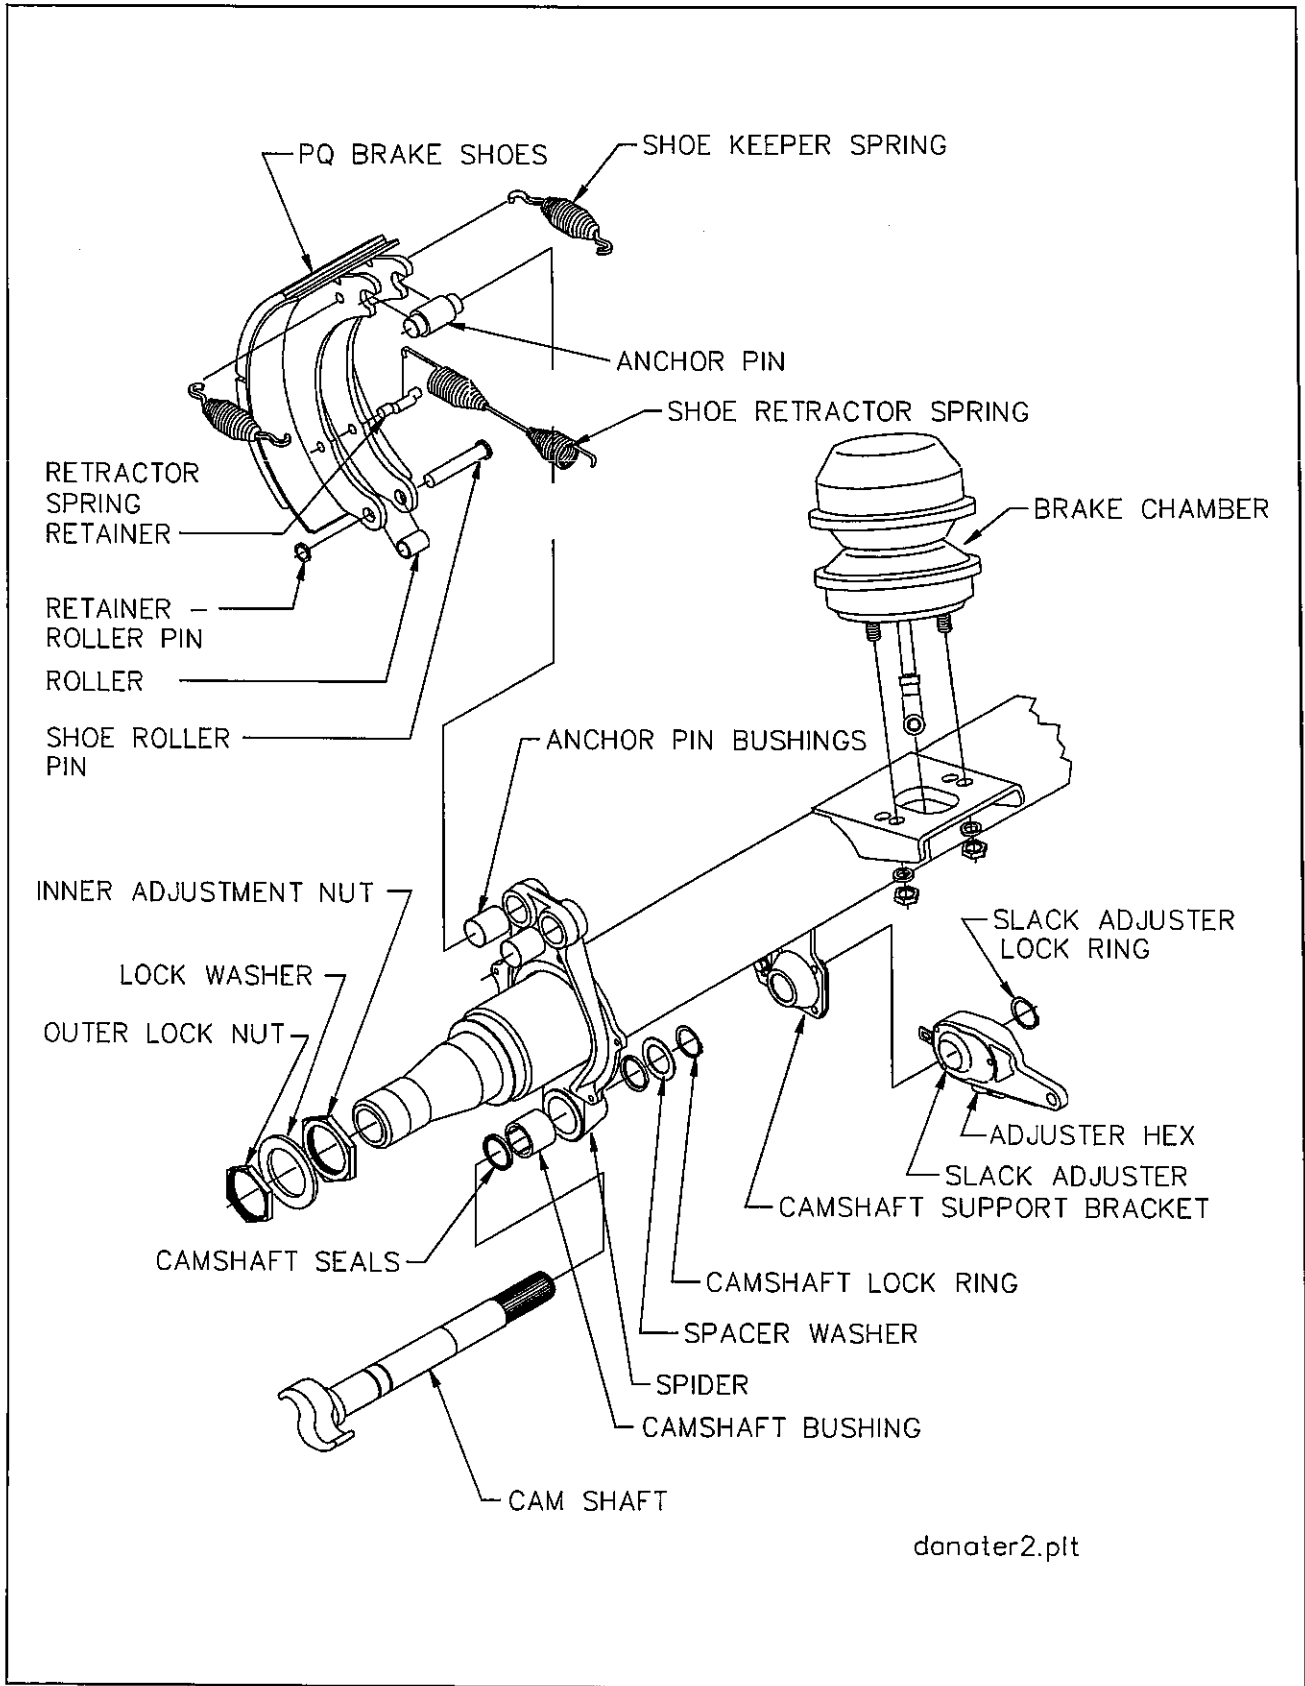

Figure 4-10 Axle and Brake Assembly
Check for faulty units. Check the condensation holes on the underside of the brake chambers to make sure they are open. The spring brake has two brake chambers, a service chamber and an emergency chamber or spring chamber (See Figure 4-10). Service brake chambers should be disassembled and cleaned at 50,000 miles or yearly. The diaphragm and any marginal parts should be replaced. When replacing the service diaphragm, replace the corresponding parts for the other chamber on the same axle (to aid in even brake application and release). Examine yoke pin for wear and replace as necessary. The spring chamber should not be serviced. Replace entire unit (both service and spring chamber) if spring chamber becomes faulty.
2. Remove dust cap from the rear of the spring brake chamber (See Figure 4-10).
b. **Disassembly for 12-1/4" X 7-1/2" Brakes (See Figure 4-10)**